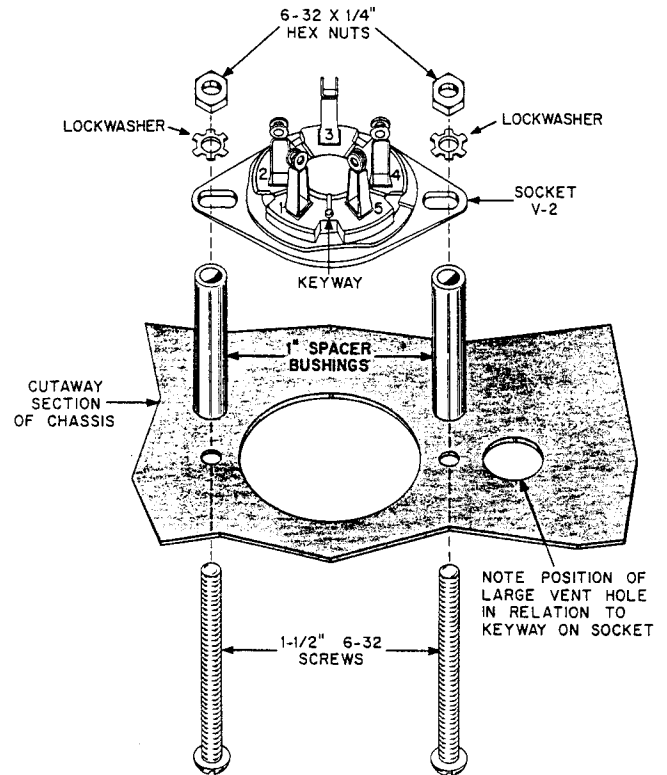

FIGURE 3. HOW TO MOUNT V-2
- V-2 is a ceramic 5-pin socket. The keyway of this socket is a raised dot. The keyway must be positioned toward the rear of the chassis. As shown in Figure 3, put the two 6-32x1 $\frac{1}{2}$ " screws thru the holes in the chassis from the top. Place the two 1" spacer bushings on the screws and then put the socket on the two screws. Put a lockwasher on each screw and tighten two 6-32 nuts on them.